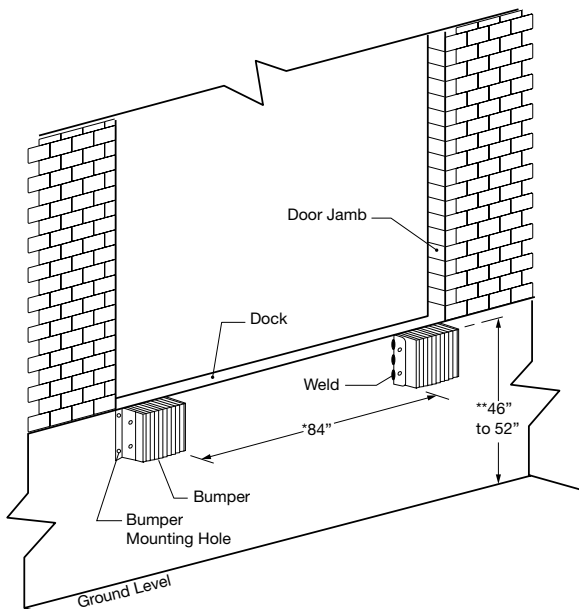

Fig. 1: Bumper Location Concept View (P1 Style Bumpers Shown)
1. Identify the exact bumper position on the loading dock referencing *Fig.1 – Bumper Location Concept View*.